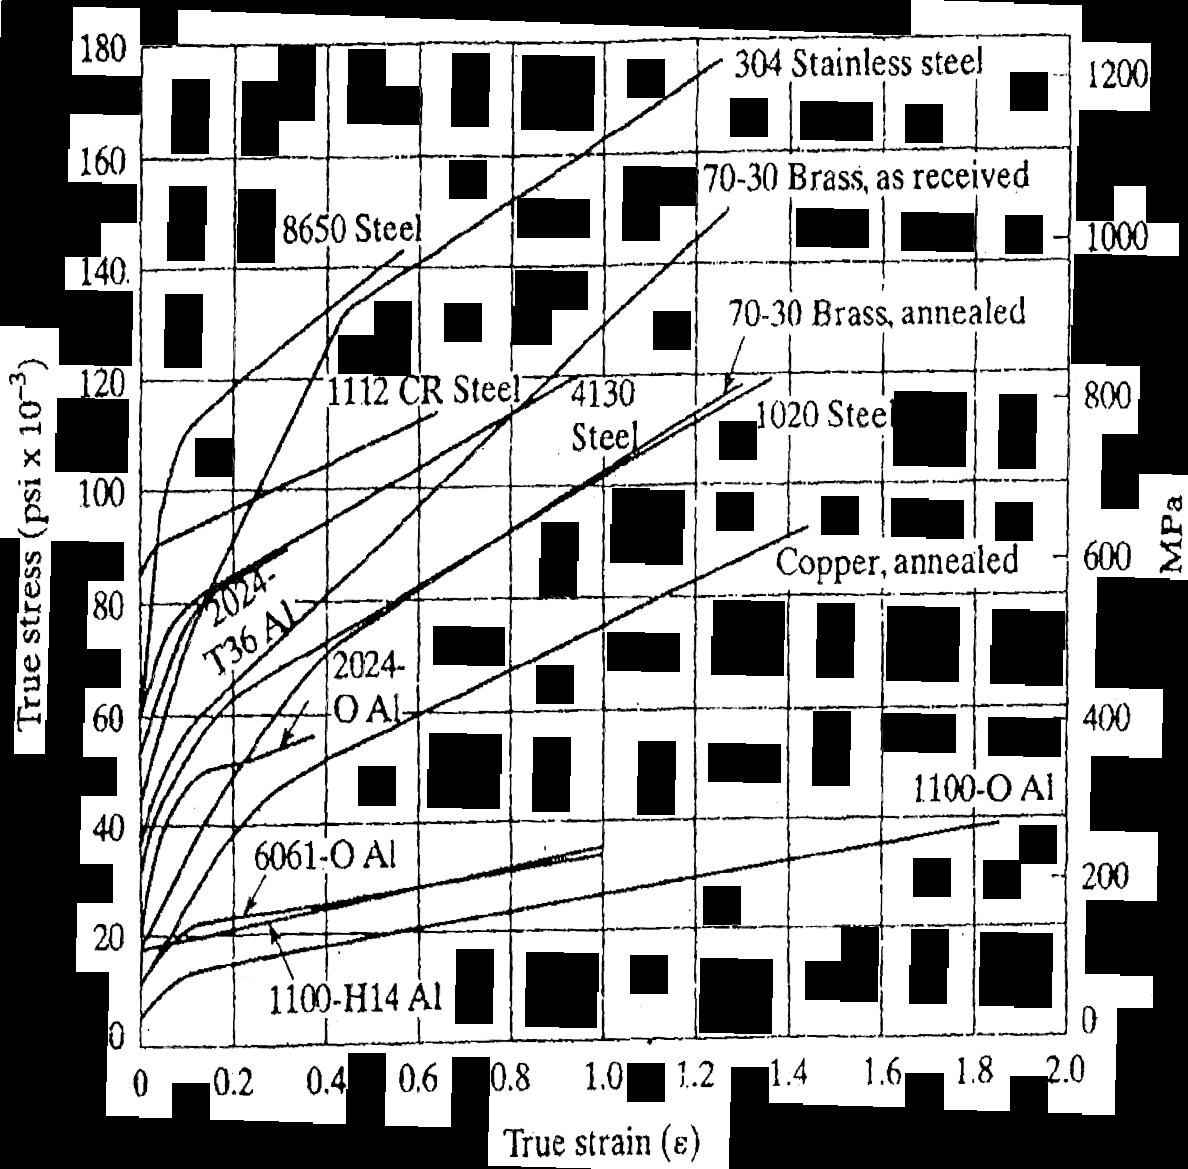

Fig. 1. True stress -vs- True strain curve, in connection with question 5(b).
b) A solid cylindrical slug of 1020 steel is 150 mm in diameter and 100 mm high. The height is reduced to 50% by cold, open die forging operation. Assuming a coefficient of friction of 0.2 calculate the forging force needed at the end of stroke. True stress vs. True strain curve is given in Fig.1 (7+3)+10= 20